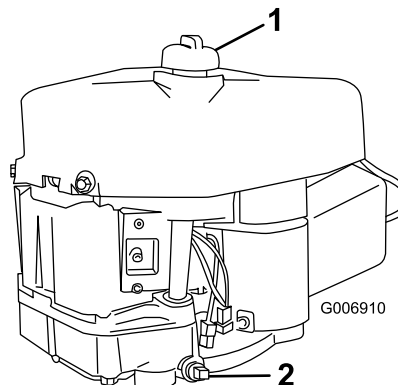

Figure 17
6. Clean around the oil dipstick (Figure 17) so that dirt cannot fall into the fill hole and damage the engine.
7. Place a drain pan below the oil drain plug and remove it (Figure 17).
10. Slowly pour approximately 80% of the specified amount of oil into the fill hole (Figure 17). Check the oil level; refer to 4 and 5 of Checking the Oil Level.
6. Slowly pour about 80% of the specified amount of oil into the fill hole (Figure 17). Check the oil level; refer to 7 and 8 of Checking the Oil Level.